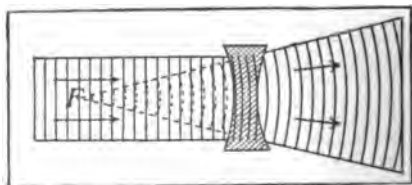

FIG. 380.—Wave diagram of light passing through a concave lens.
**385. Concave Lenses.**—When sunlight passes through a *concave* lens a diverging cone of light is formed. (See Fig. 380.) This is caused by the edges of the wave being retarded more than the center, producing a convex wave front. This diverging cone of light acts as if it had proceeded from a luminous point at *F*.